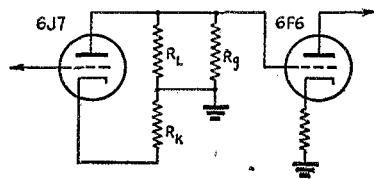

Fig. 6 — Equivalent of the a.c. coupling circuit between the two stages, showing how the total plate resistance of the 6J7 voltage amplifier is derived.
11) The resistance represented by the load line to be drawn on the characteristic curves consists not only of the plate and cathode resistors but also the grid resistor of the power amplifier, since the latter is effectively in shunt with the plate resistor. Thus the actual total plate resistance is as shown in Fig. 6,